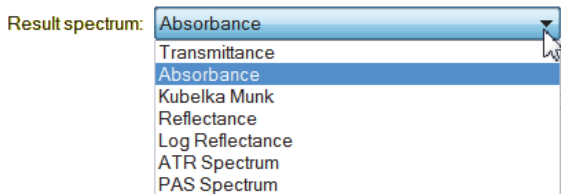

Figure 4.6: Result spectrum data types
- It is recommended to select 'Absorbance' as result spectrum data type. Figure 4.6 shows possible result spectrum data types.